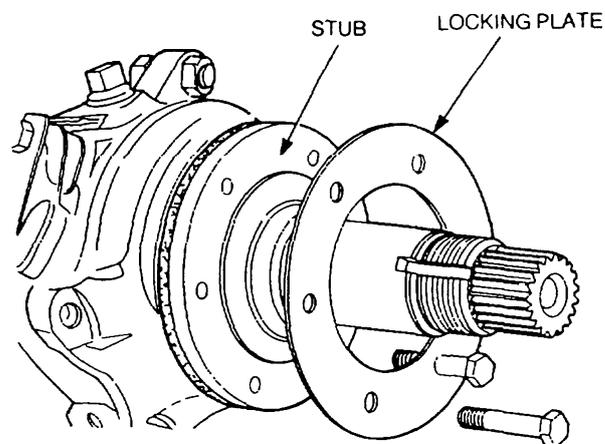

Figure 118 Stub Axle Removal
- c. Remove the six bolts and locking plate retaining the hub stub axle to the swivel housing (Figure 118).